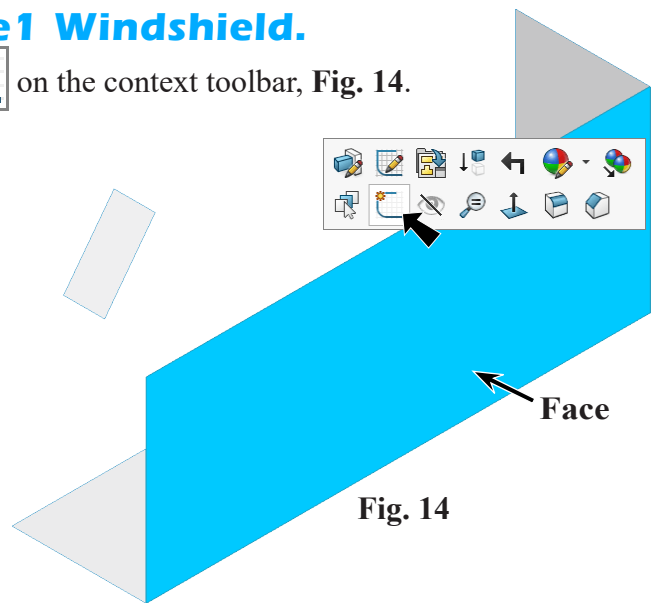

Fig. 14
Step 1. Click the **side face** and click **Sketch**  on the context toolbar, **Fig. 14**.